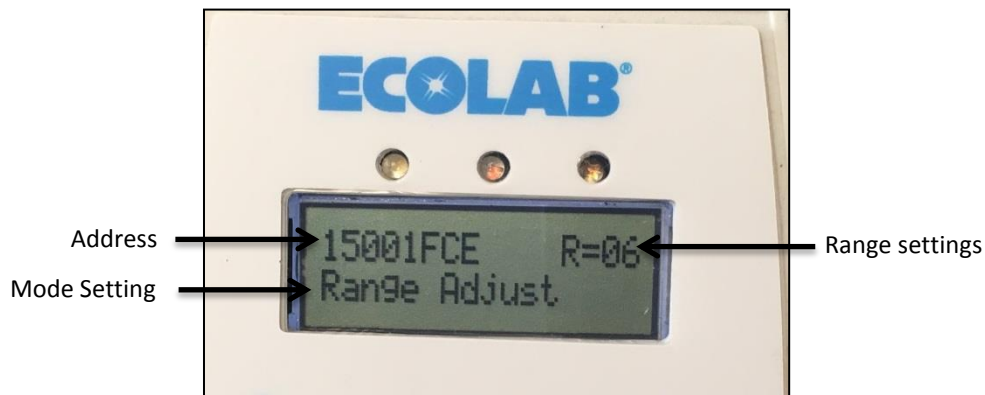

Figure 3. Installation Tool screen
1. With the NEXA HHCM TOUCH FREE DISPENSER BEACON (COMPACT) installed in the dispenser, hold the Installation Tool within 10 inches of the dispenser and select mode "Range Adjust" (Refer to Ecolab Beacon Installation Tool Users Guide). Activate the dispenser (*i.e.*, dispense product) to establish communication between the NEXA HHCM TOUCH FREE DISPENSER BEACON (COMPACT) and the Installation Tool. Note: both yellow and red LED on the Installation Tool will flash when it has successfully communicated with the NEXA HHCM TOUCH FREE DISPENSER BEACON (COMPACT). The NEXA HHCM TOUCH FREE DISPENSER BEACON (COMPACT) address (device ID number) and its current range setting should be displayed on the Installation Tool screen (See Figure 3).
2. To adjust the communication range, press the UP  (increase) or Down (decrease)  key on the Installation Tool until the desired range setting is displayed, then press the "Select" button. An audible confirmation from the Installation Tool should be heard. Activate the dispenser to complete the update to the range setting on NEXA HHCM TOUCH FREE DISPENSER BEACON (COMPACT). Note: The LED on the dispenser will flash two (2) times when the range setting has successfully updated.